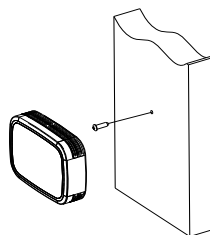

Fig.7
2. Wall mounted installation: as shown in Fig.7, drill a mounting hole on the wall, install a screw with 1-2 mm out of the wall, and lock the detector on. This way is simple but not stable, only for some specific applications.